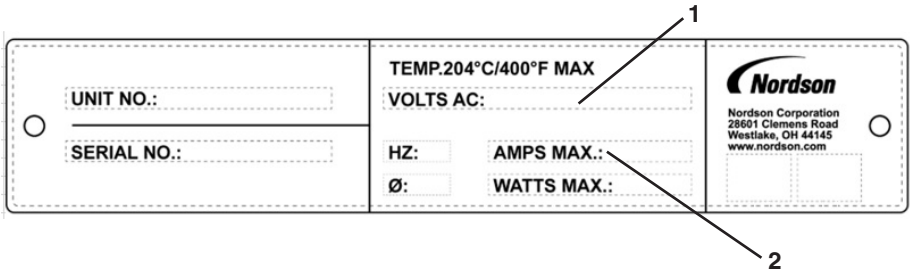

Figure 3-4: Identification plate
- 2. See Figure 3-4. Determine the voltage specification of your melter by looking at the VOLTS (ac) portion (1) of the identification plate.
4. See Figure 3-4 on page 3-10. Size your electrical service line based on the maximum amperage shown in the AMPS (maximum) portion (2) of the identification plate. The line must also meet local electrical code requirements.